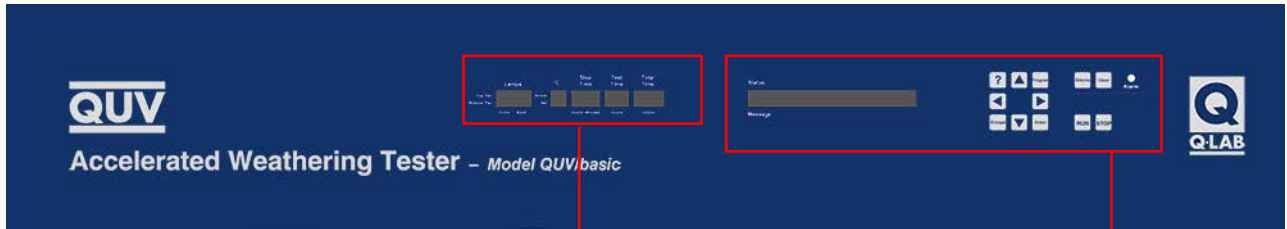

Figure 7.3a: Full control panel.
- The control panel includes LCD displays and keypad to monitor and control all tester functions (Figure 7.3a).